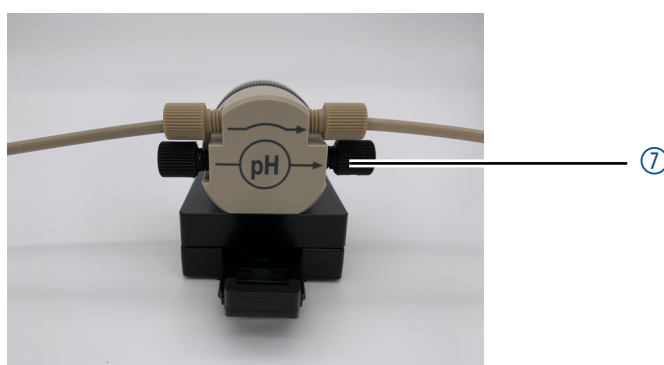

Fig. 7: AZURA® pH flow cell with blind fittings
- connect the fluid capillaries to the integrated bypass (use blind-fittings during the tubing switching to prevent leakages, see figure 7) or